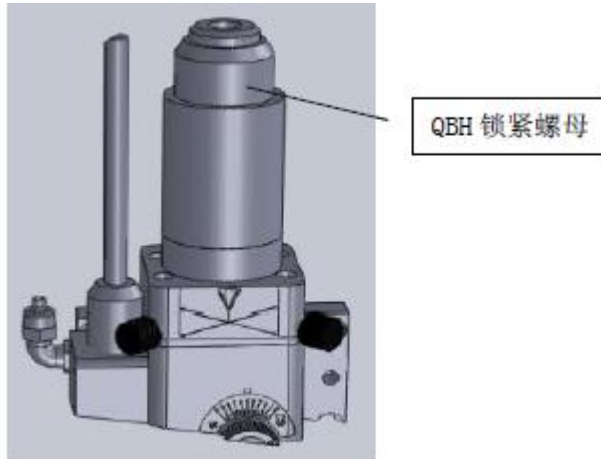

Figure 3-4
- 3, clockwise to tighten connection fixing nuts block, as shown in Figure 3-4.